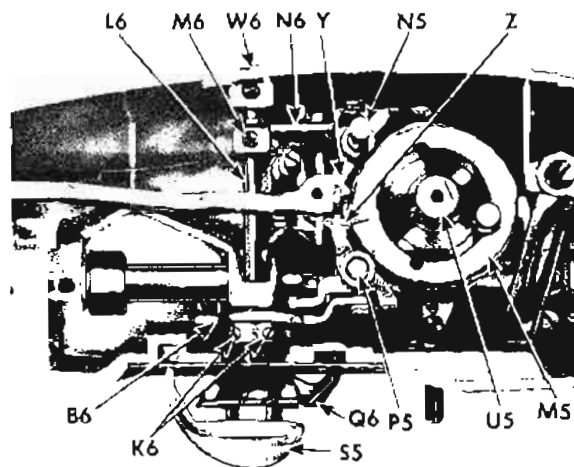
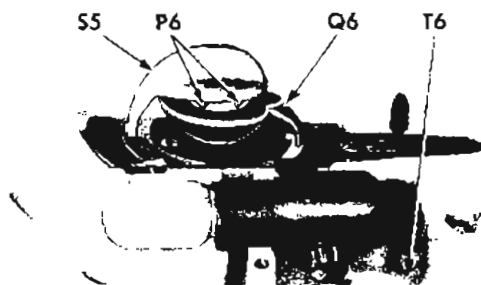

Fig. 66. Cam Stack and Cam Selector Arm Shaft
Fig. 67. Removing Selector Arm Shaft
2. Loosen two screws K6, Fig. 66.
NOTE: Outer selector knob S5 may be removed from shaft L6 by removing the two socket screws P6, Fig. 67. Take care not to lose the spring which is seated in inner knob Q6.
1. Replace followers Y and Z, as shown in Fig. 66.
2. Place selector arms B6 and N6 in position shown in Fig. 66, making certain that their hinged brackets fit into slots of followers Y and Z.
5. Loosen set screw T6, Figs. 67 and 69, and remove entire cam stack assembly M5, Fig. 66.
4. Tighten set screw T6, Figs. 67 and 69.